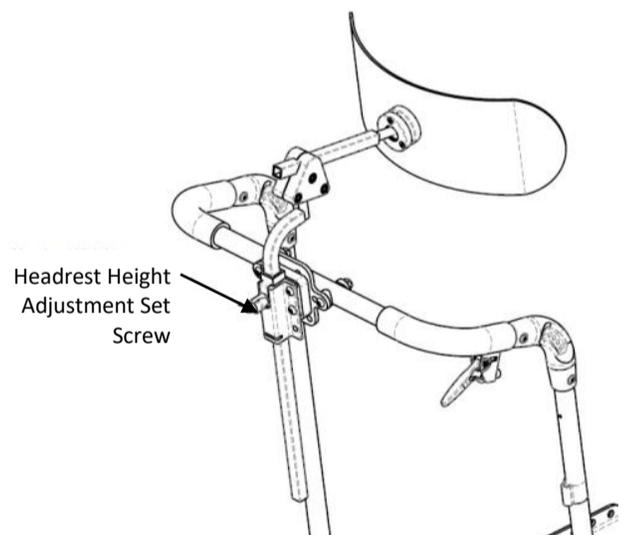

Figure 15.48: Headrest
- Loosen the "Headrest Height Adjustment Set Screw" and slide the head rest assembly upwards until it is free of the chair (see Figure 15.48).